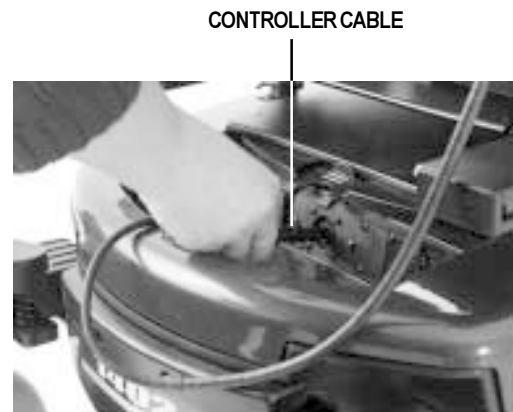

Figure 13. Controller Cable Connection
3. Plug the controller cable into the connector on the electronics tray. See figure 13.